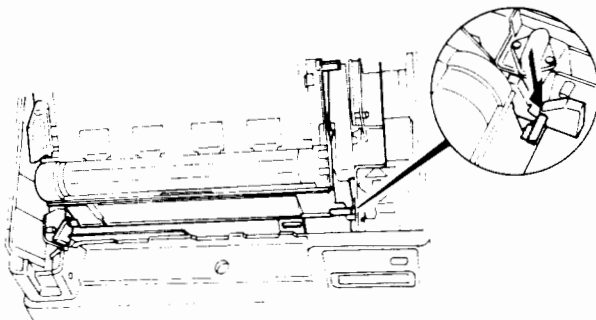

Figure 2-5 Installing the process cartridge
- d. Hold the process cartridge by its fin-shaped handles and lower it into the printer, making sure that the pins on either side slide down the nylon grooves inside the printer. See Figure 2-5.